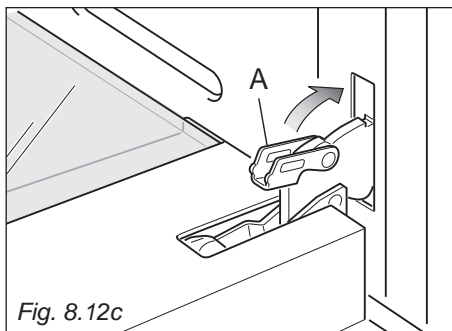

Fig. 8.12c
4. Fully close the levers "A" on the left and right hinges, as shown in the figure 8.12c.